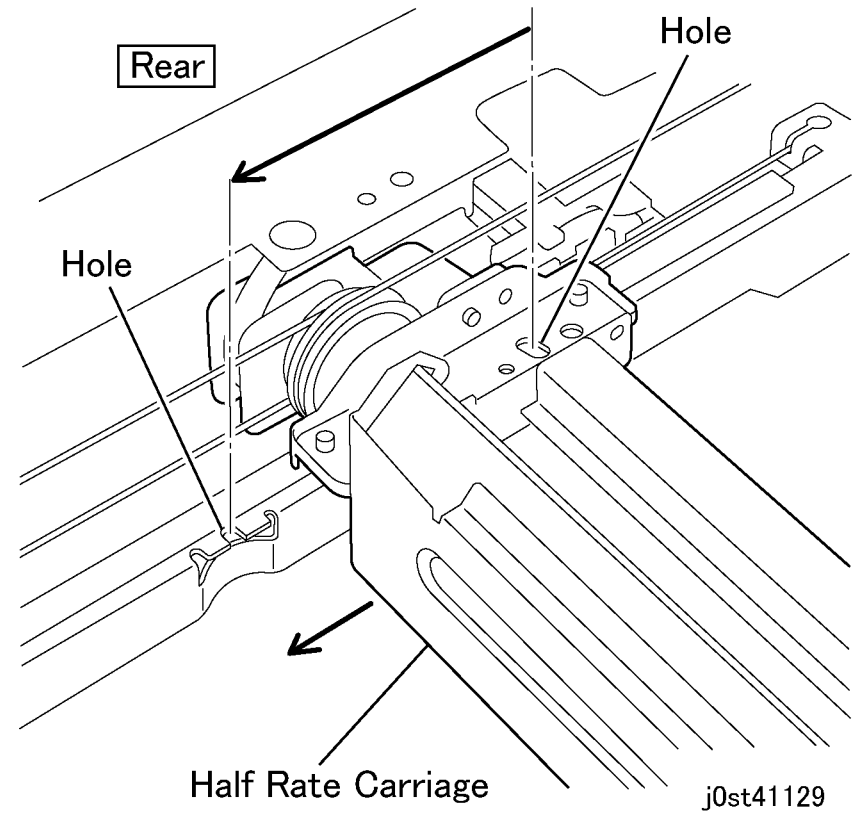

Figure 3 Position Adjustment of Half Rate Carriage 1/3 (j0st41129)
5. Align the tool hole in the Half Rate Carriage with the tool hole of the rail (Front/Rear). (Figure 3)